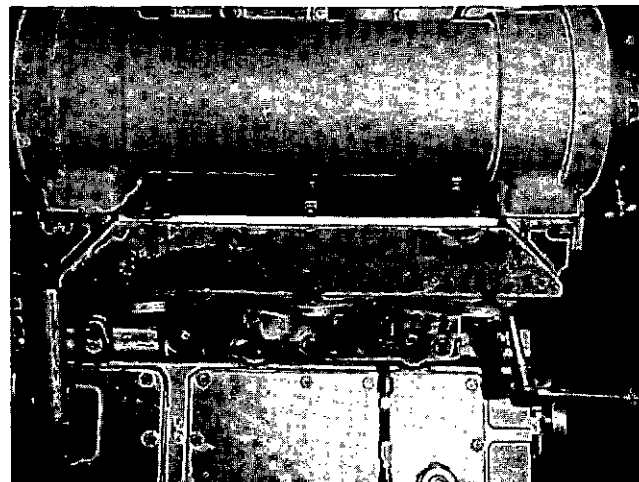

Fig. 0-12, V40044. Removing oil cooler
3. The cooler is secured to the filter head with eight capscrews. Four of these capscrews are located inside the filter head. Fig. 0-12. Remove all capscrews to lift cooler from bracket. Discard gaskets.